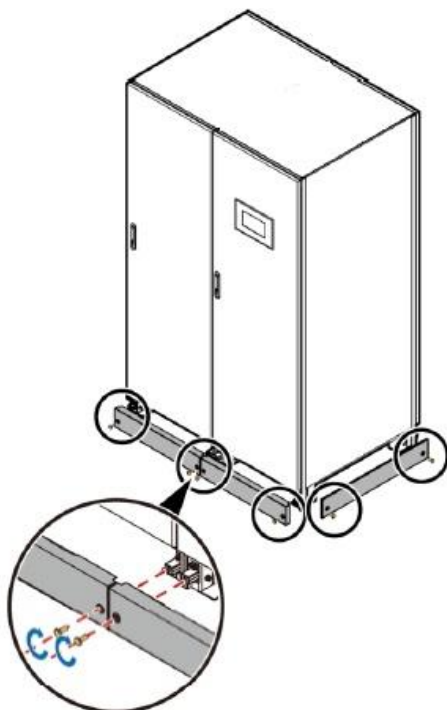

Fig. 2-13 Installation of front and rear foot baffles
Step 4: Install front and rear foot baffles and left and right foot baffles, taking 500KVA model as an example, as shown in Fig. 2-13.